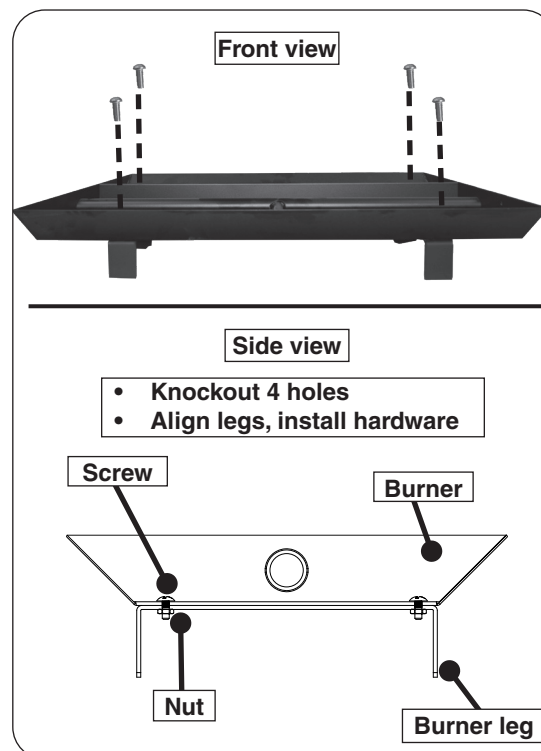

Fig. 10-1 Install burner legs (if needed)
1. **OPTIONAL BURNER LEGS:** The burner is supplied with a set of burner legs. They are designed for use with a decorative fender (if desired - purchased separately). To install (if needed), begin by knocking out the 4 holes in the corners of the burner pan. Then align the burner legs, and install using a Phillips screwdriver and the supplied screws and nuts. See Fig. 10-1.